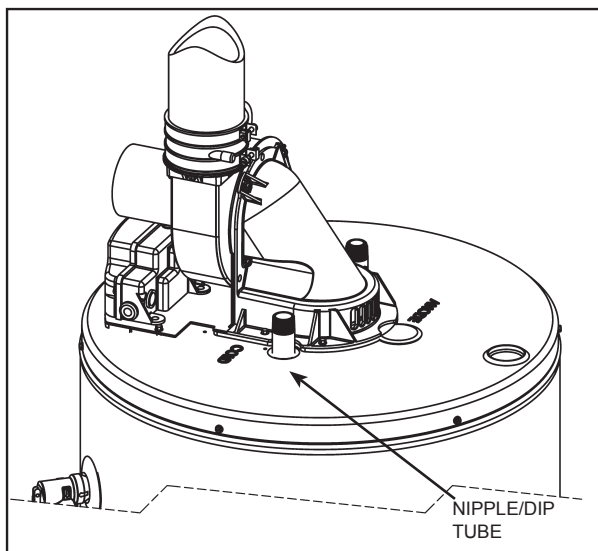
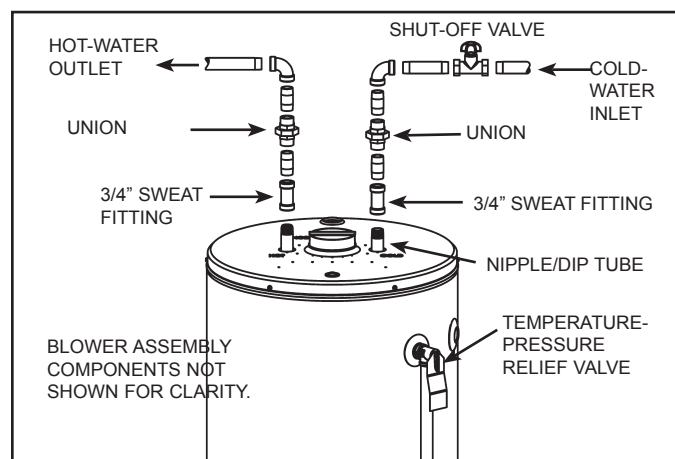

Figure 5. DIP Tube (Inlet Piping)
Figure 6. Inlet Piping with Union Connectors
6. Remove the inlet water piping connected to the cold inlet of the water heater. See **Figure 5** & **Figure 6**. Some installations will have a union connection, others will have the supply piping soldered to an adapter that connects to the nipple on the water heater. Using the pipe wrench remove the piping from the top of the tank.
3. Apply Teflon® tape or pipe sealant on the top threads and reconnect the water piping. See **Figure 6**.